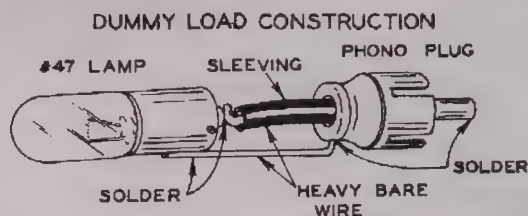

Figure 7
- () Construct the dummy load by carefully following Figure 7.